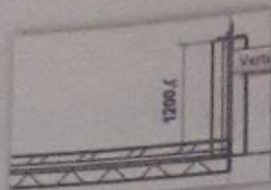

Figure 33: Wall Centreline
- Wall Centerline:** The geometric center of the wall construction (Figure 33).
In the following example, with the Location Line value specified as Finish Face: Exterior, the cursor is placed on a dashed reference line, and the wall is drawn from left to right. (Figure 33)
- **Core Face: Exterior and Interior:** The line that forms the outer edges of the core components. (Figure 33)